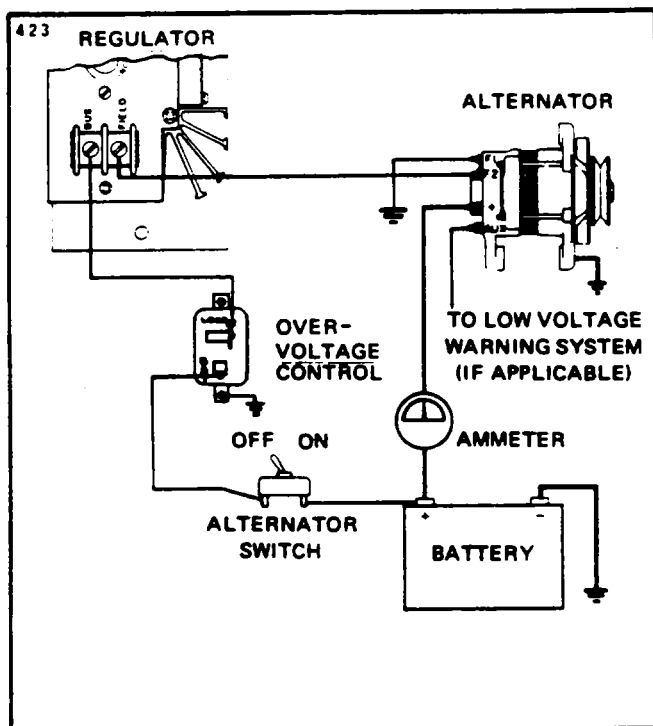

Figure 24-19. Application of Overvoltage Control
3. The relay contacts will remain open until the alternator switch is turned off. Figure 24-19 illustrates the overvoltage control connected in a typical Prestolite insulated field alternator.